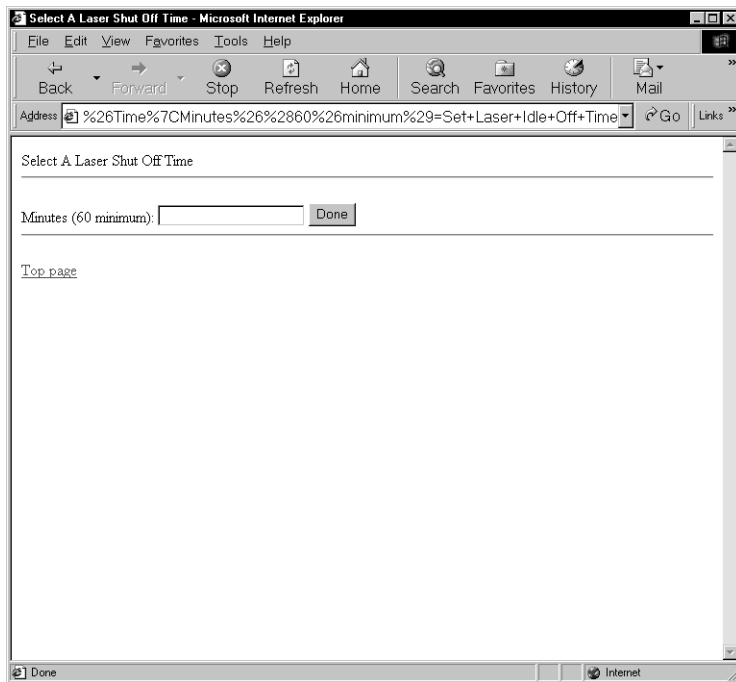

Figure 13-2. The Select A Laser Shut Off Time window.
1. In the Typhoon Direct Instrument Access window, click **Select A Laser Shut Off Time**. The Select A Laser Shut Off Time window appears (figure 13-2).